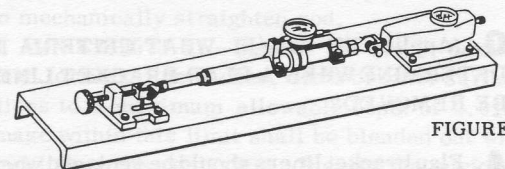

FIGURE 5
2. Fixture Mounting Instructions-K604621-201 (Figure 5)